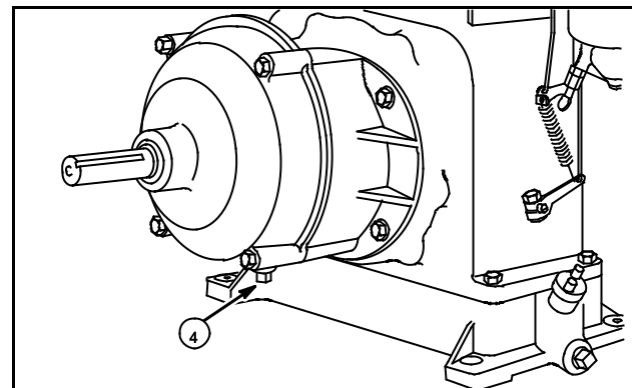

Fig. 3
The reduction gears are lubricated by engine crankcase oil. Remove drain plug (4) from gear case cover to drain oil remaining in gear case when changing engine oil, Fig. 3.